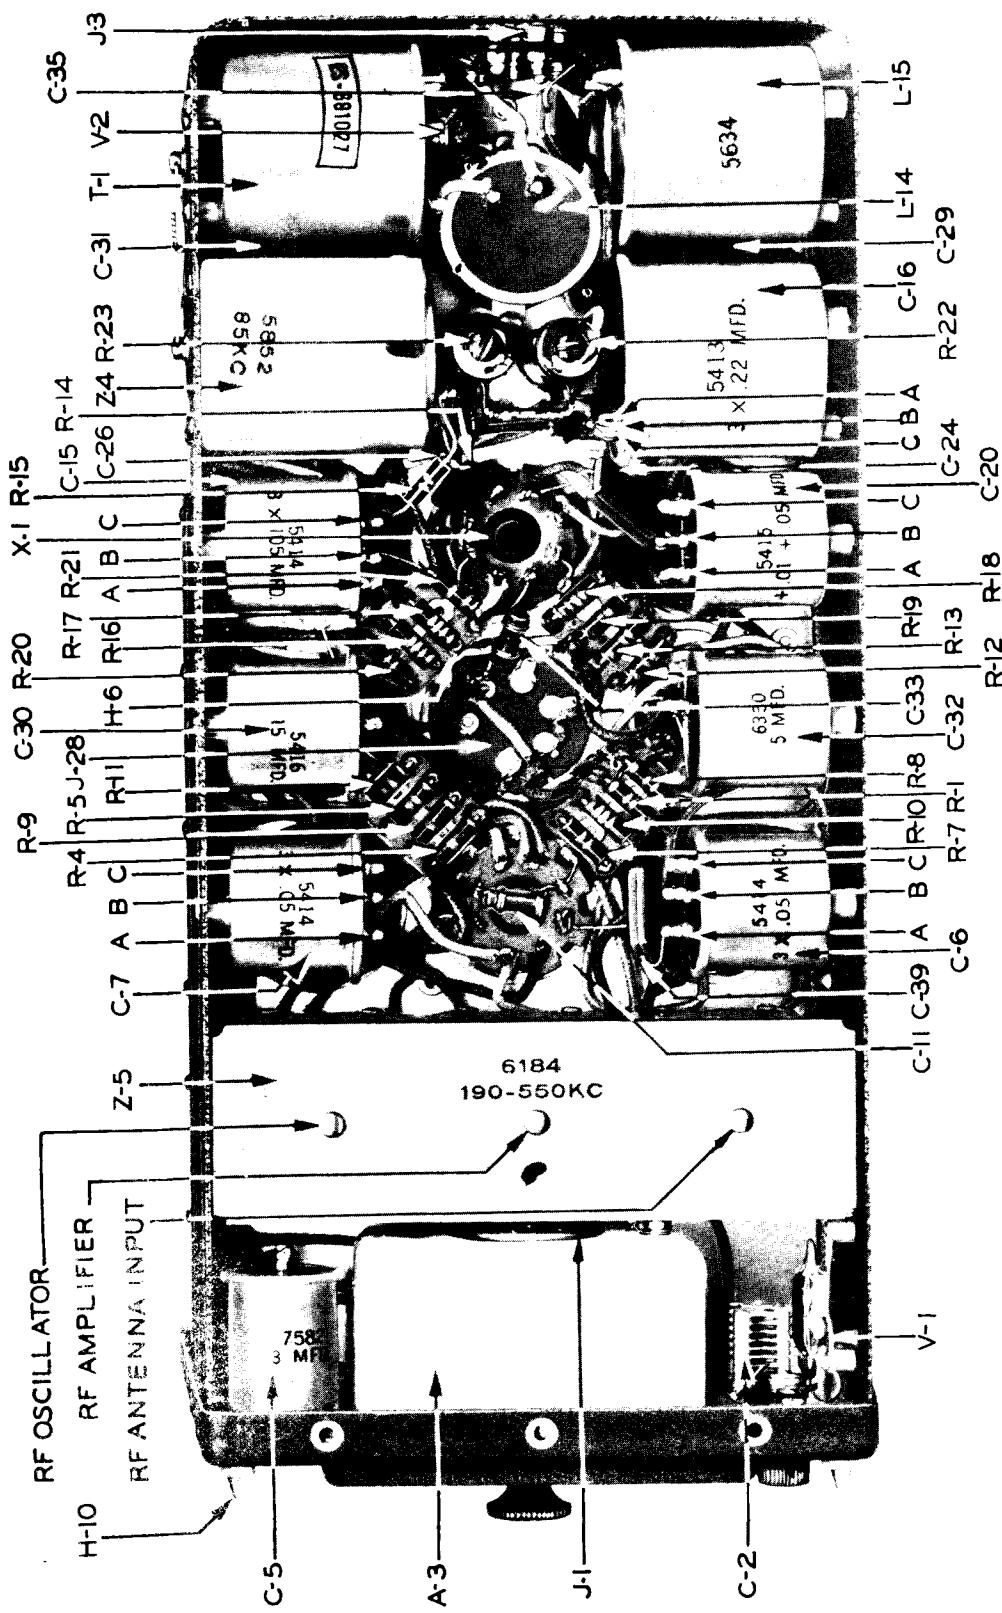

FIGURE 4 — TYPICAL RADIO RECEIVER, BOTTOM INSIDE VIEW
- (2) The radio frequency (r-f) part of these radio receivers consists of the following circuits and vacuum tubes, starting at the antenna: a tuned antenna input circuit, an r-f amplifier tube V-3 (Tube VT-131), a tuned r-f amplifier circuit, a mixer tube V-4 (Tube VT-132), and an r-f oscillator circuit. The antenna, the r-f amplifier and the r-f oscillator circuits are tuned by equal sections of a three-section gang capacitor C-4 (A, B, C). The plate current of mixer tube V-4 contains a frequency component which is equal to the difference between the frequency of the applied signal and that of the r-f oscillator voltage.
- (3) Antenna coil L-1 is contained in Z-5A which is a unit of plug-in r-f coil set assembly Z-5 (Figure 4). Z-5B contains the r-f amplifier coils L-2 and L-3. Z-5C contains L-4, L-5, R-3 and R-6 of the r-f oscillator. L-1 of Z-5A, L-3 of Z-5B and L-5 of Z-5C contain iron cores which are used to adjust each coil to a particular value of inductance. After this adjustment at the factory, the iron cores are sealed in position. A subsequent change in the setting of any of these will upset the tracking of that circuit.
- (4) C-1 is a small fixed capacitor which couples the antenna to the input tuned circuit. The capacitances of C-1 and C-2 are so designed that for any capacitive antenna it is possible to resonate the antenna circuit by tuning C-2.
- (5) C-39 (across L-2 in Radio Receiver BC-453-A (or -B) only) serves to tune